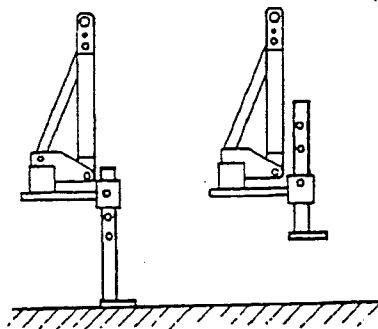

FIG. 6
9.6 - If applicable, position the support foot as shown in fig. 6.